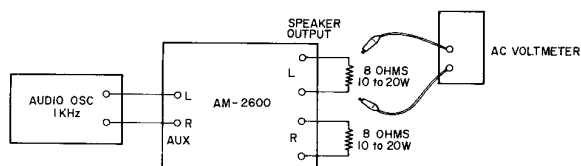

Fig. 6 Level Meter Adjustment
- Connect instruments as shown in Fig. 6.